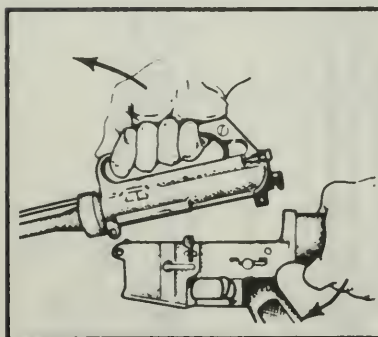

Figure 56. Separate the upper and lower receivers.
- f. Separate the upper and lower receivers (Figure 56).